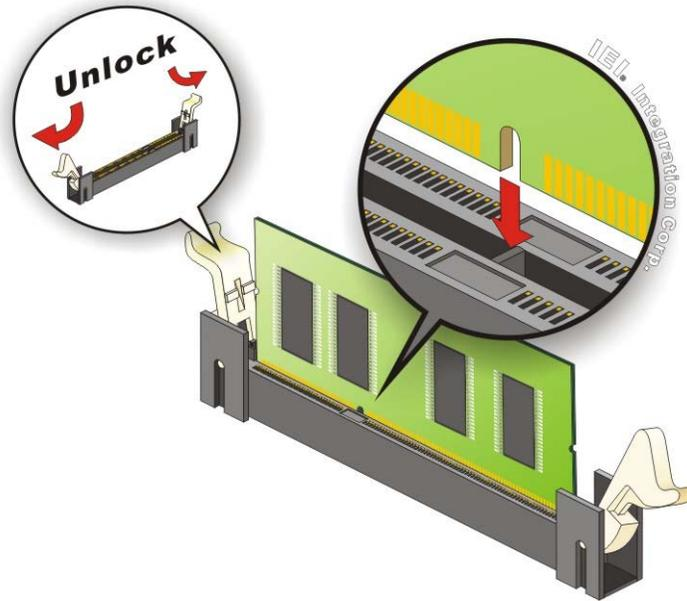

Figure 4-1: SO-DIMM Installation
To install an SO-DIMM, please follow the steps below and refer to **Figure 4-1**.
- Step 1:** **Open the SO-DIMM socket handles.** Open the two handles outwards as far as they can. See **Figure 4-1**.
- Step 2:** **Align the SO-DIMM with the socket.** Align the SO-DIMM so the notch on the memory lines up with the notch on the memory socket. See **Figure 4-1**.
- Step 3:** **Insert the SO-DIMM.** Once aligned, press down until the SO-DIMM is properly seated. Clip the two handles into place. See **Figure 4-1**.